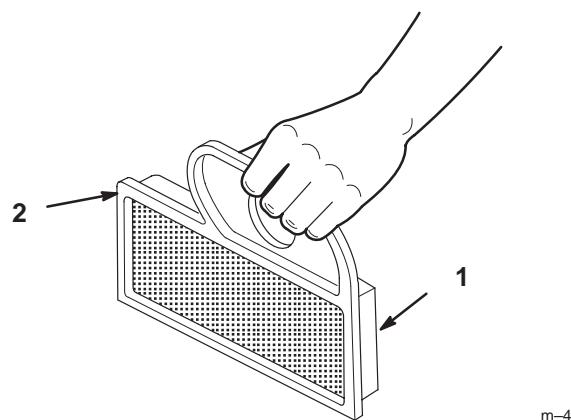

Figure 22
- Lightly tap the element on a flat surface to remove dust and dirt (Fig. 22).